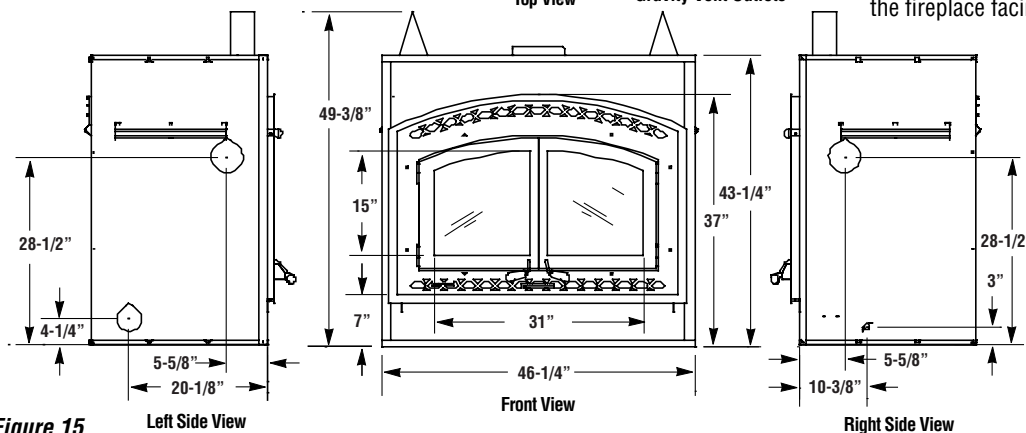

Figure 15
The construction of the framing, facing, and mantel must be in accordance with the standards and the following illustrations (**Figure 15 and 16**):
- C. Frame the fireplace with vertical studs at the sides of the fireplace running from floor to ceiling (see **Figure 15**). If combustible facing is to be used, position the studs back, from the front edge of the fireplace (a space that is the thickness of the facing material, so that the facing can be installed flush with the fireplace facing). Frame headers between the vertical studs only as follows: